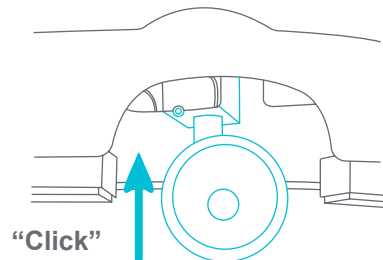

Fig. 7c
- Push the wheel upward until it clicks into the base (Fig. 7c). Repeat for the other side.